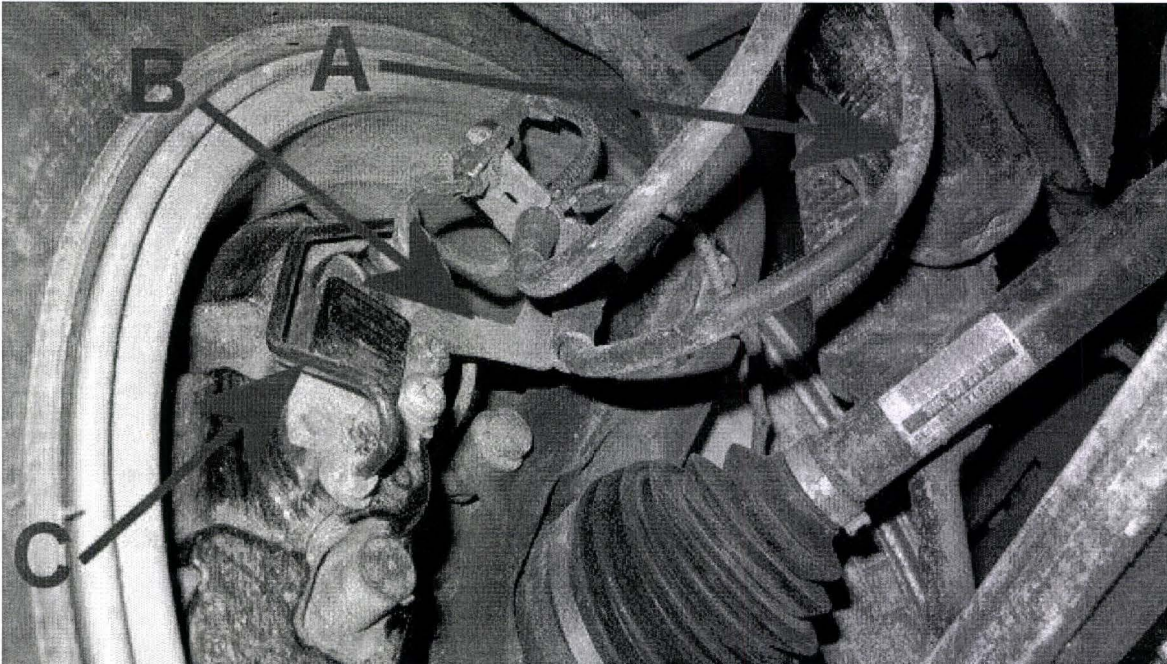

Figure 1
**IMPORTANT:** For clarity Figure 1 shows the Left hand front and was taken using a Continental GT with the Iron brake system fitted. Please follow this procedure for the Carbon brake system although the appearance of some components may be different than the Iron brake system.
1. Referring to the Workshop Manual Rep.Gr 47 - Remove the original Left hand front brake hose (Figure 1 point A)
- Remove the existing caliper bracket (Figure 1 point B) and disconnect the brake pad wear connector and road wheel speed sensor loom grommet from the bracket
- Remove the metal caliper brake pipe (Figure 1 Point C) **IMPORTANT:** There is no requirement to replace the metal brake pipe on GT and GTC vehicles with the carbon ceramic brake system